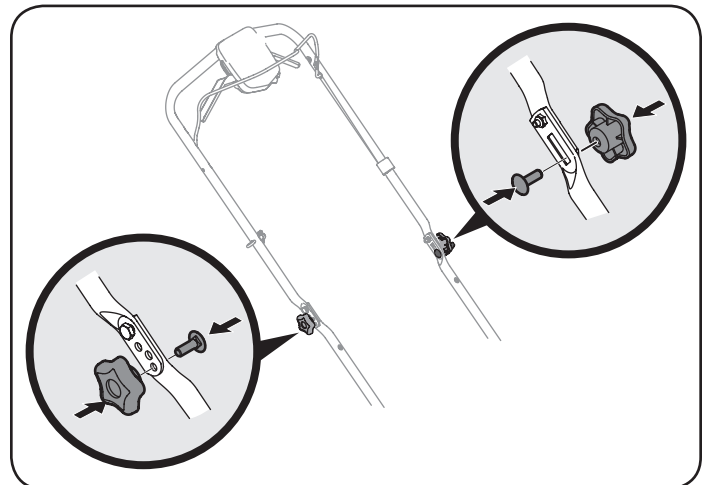

Figure 3
3. Reattach wing nuts and carriage bolts removed in Step 1 into lower holes of handle as shown in Figure 3.